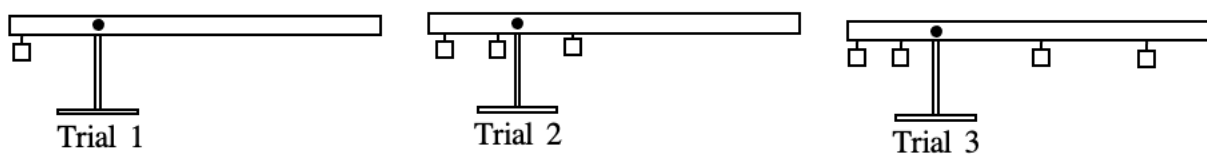

Figure 5: Set-ups to use in Activity 2-3.
The three situations that are to be tested are shown in Fig. 5 below.
3. Add a single mass in such a way that the meter stick will balance as shown in Trial 1 of Figure 5. Record the data for Trial 1 in Table 2-5.
4. Set up the situations as shown in Trial 2 and Trial 3 of Figure 5 and record your data. For Trial 2, use two masses (different locations) on the left side and one mass on the right side. For Trial 3, use two masses (different locations) on each side.